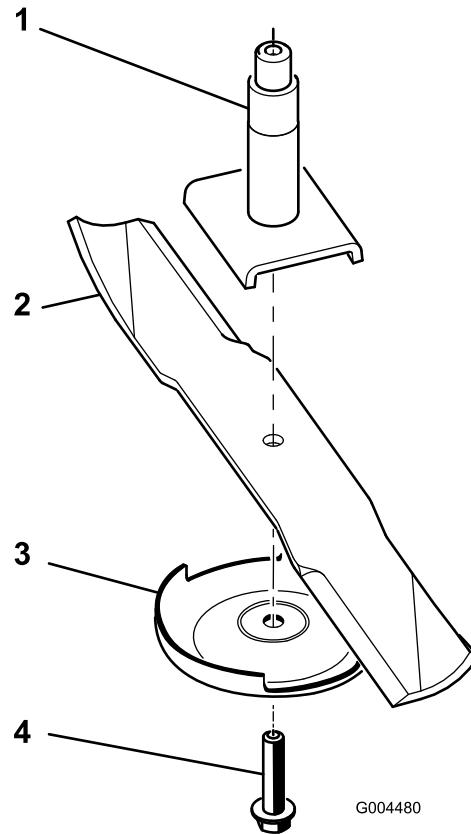

Figure 73
2. Remove the blade bolt, anti-scalp plate, and blade from the spindle shaft (Figure 73).
Note: If the blade stays in a horizontal position, the blade is balanced and can be used. If the blade is not balanced, file some metal off the end of the sail area only (Figure 73). Repeat this procedure until the blade is balanced.
2. Install the anti-scalp plate and blade bolt (Figure 73).
1. Install the blade onto the spindle shaft (Figure 73).